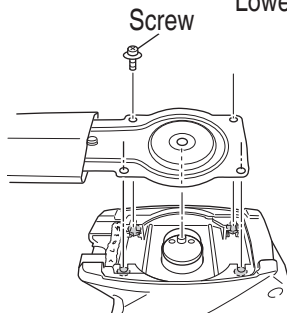

Fig. 11
- (1) Adjust the crank cam so that its circular disc part comes just beside the unit as shown in the figure.
- (2) If the nuts (located in four positions) are loose, press them into the groove of the housing.
4. Attach the new blade (**Fig. 11**)